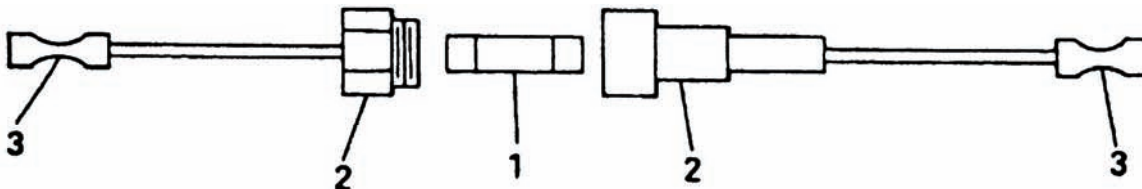

Figure 2-15. In-Line Fuse Installation.
- d. Cut black wire on load side of GROUND FAULT CIRCUIT INTERRUPTER (23).
- e. Strip wires on in-line fuse holder (2, Figure 2-15) and install butt splices (3) at each end. Connect ends of black wire to in-line fuse holder butt splices (3).
- f. Install fuse (1) in fuse holder (2).